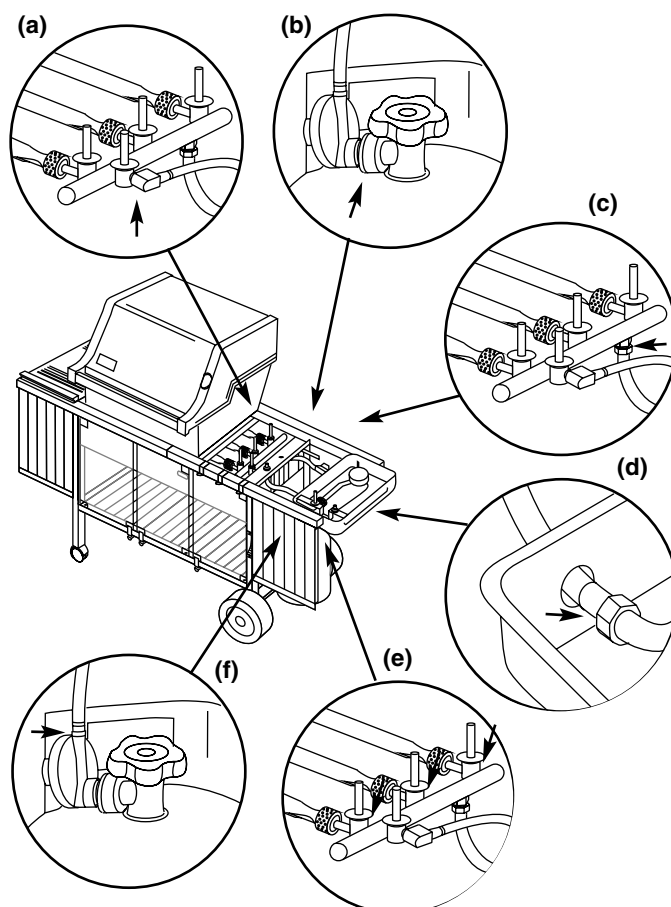

Figure 10
- Hose to manifold connection. Figure 10 (a).
- Regulator to tank connection. Figure 10 (b).
- Manifold to side burner hose connection. Figure 10 (c).
- Side burner hose to side burner connection. Figure 10 (d).
- Valves to manifold connections. Figure 10 (e).
- Hose to regulator connection. Figure 10 (f).